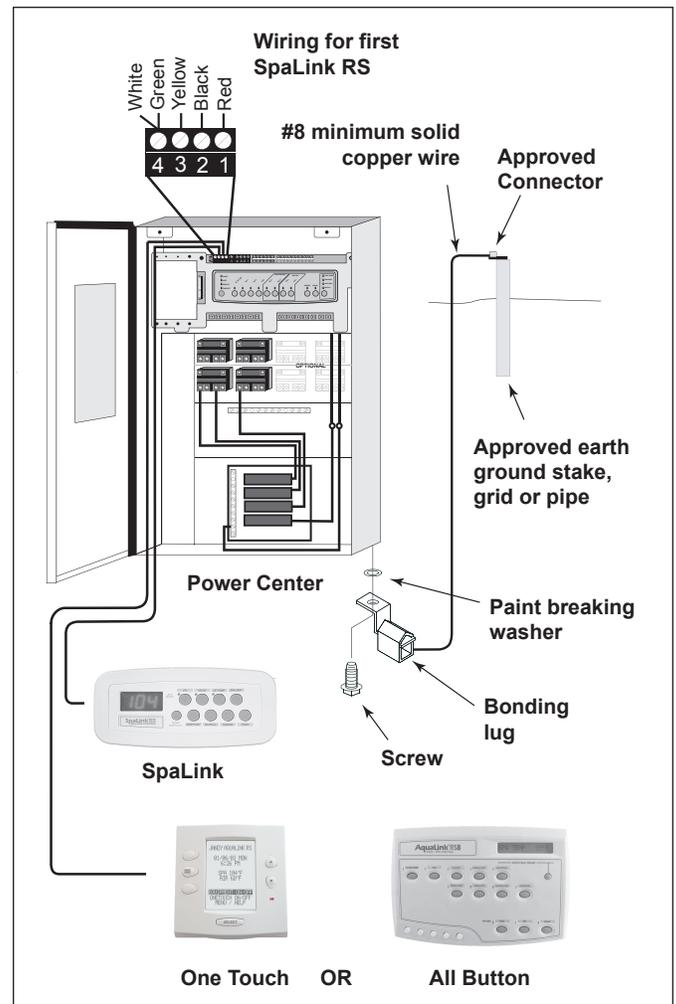

Figure 8. Wiring Configuration
3. Use an electrician's snake (or similar tool) to pull the SpaLink RS cable through the conduit to the Power Center. At the Power Center, feed the SpaLink RS cable into the low voltage compartment (left side). Strip the cable jacket 4" and strip each wire ¼". Use the Wiring Diagram on the inside of the Power Center door to piggyback (double-up) the SpaLink RS wires with the 4-pin terminal bar. See the Wiring Diagram as shown in Figure 8.